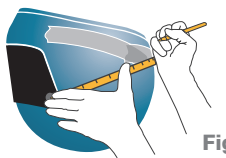

Figure 4
- 3 Using a flexible ruler, measure the same distance from a fixed point (for example - the visor mounting hole) on each side of the helmet back to the horizontal line. The center line of the helmet is midway between where the two lines intersect the horizontal line at the back of the helmet. **See Figure 4**